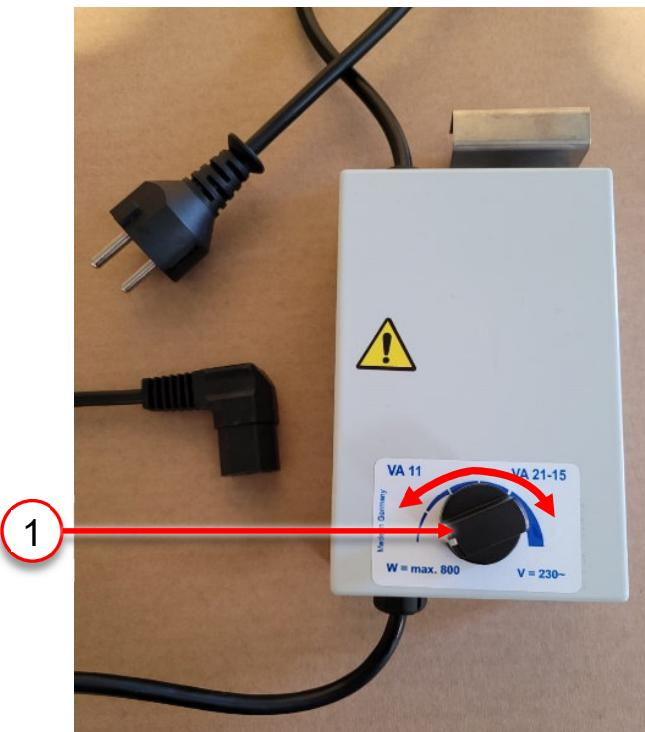

Figure 5 Selecting and setting the speed
3. Set the required speed by adjusting the rotary knob (1, Figure 5).